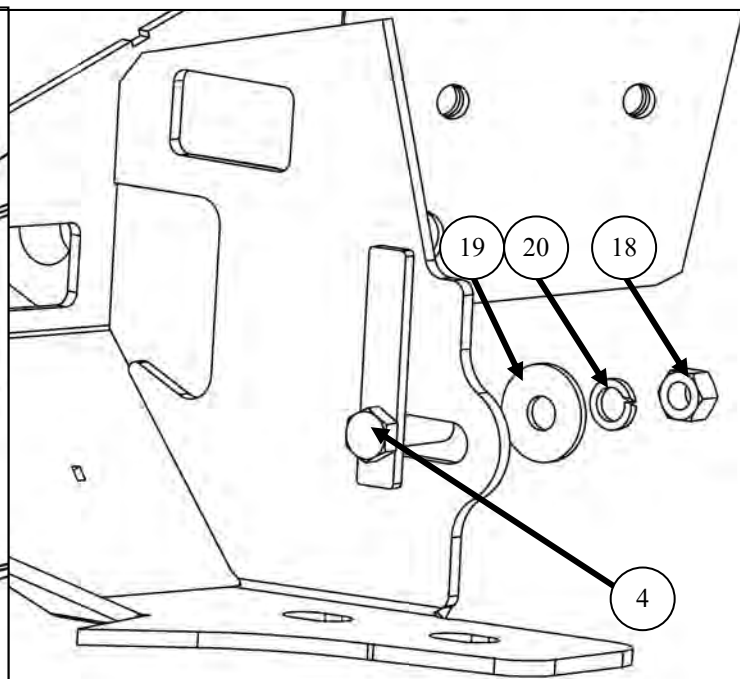

Figure 19
15. Using the supplied M12 bolt plate and M12 hardware (Items 4, 18-20), loosely secure the XTS rear bumper assembly to the OEM upper mounting locations on both sides of the bumper. See **Figure 19** for reference.